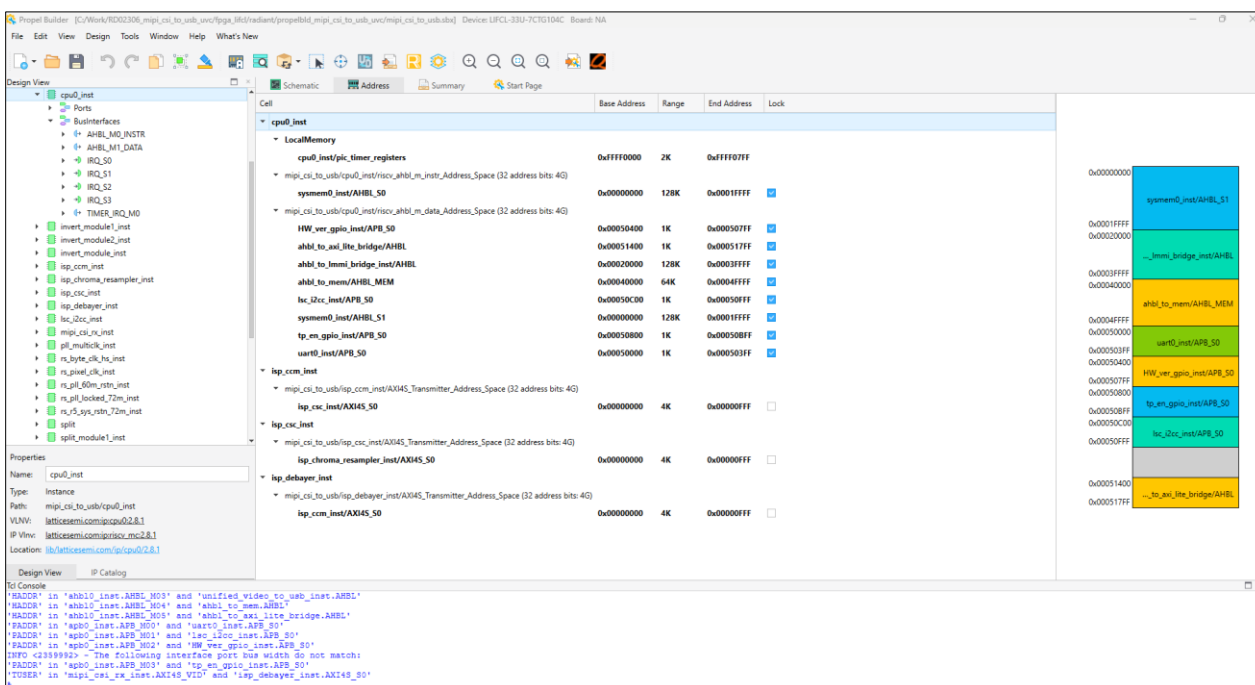

Figure 5.14. Base Address Assignment
- Click the **Address** tab to review the base address bits assignment for the system and all peripherals within the Propel Builder Project, as shown in Figure 5.14.